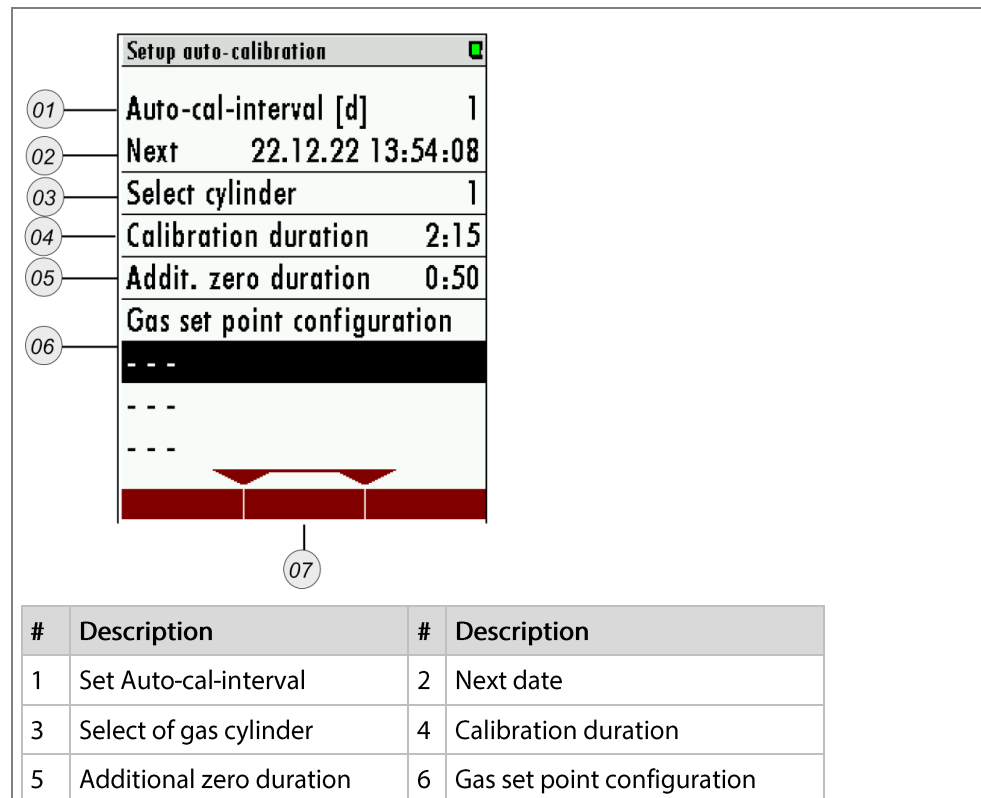

Fig. 1
- ▶ Open the menu: EXTRAS / ADJUSTMENT MENU / AUTO CALIBRATION (Fig.1).
↳ Structure of menu-point see (Fig.1 (1-7)).